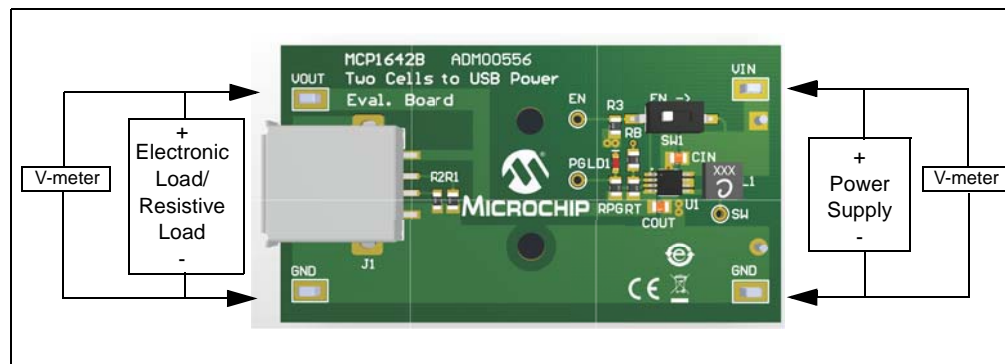

FIGURE 2-4: MCP1642B/D Two-Cells to USB Power Evaluation Board Setup.
2. Connect input supply as shown in Figure 2-4 or connect two AA batteries in the battery holder on the bottom side of the board.